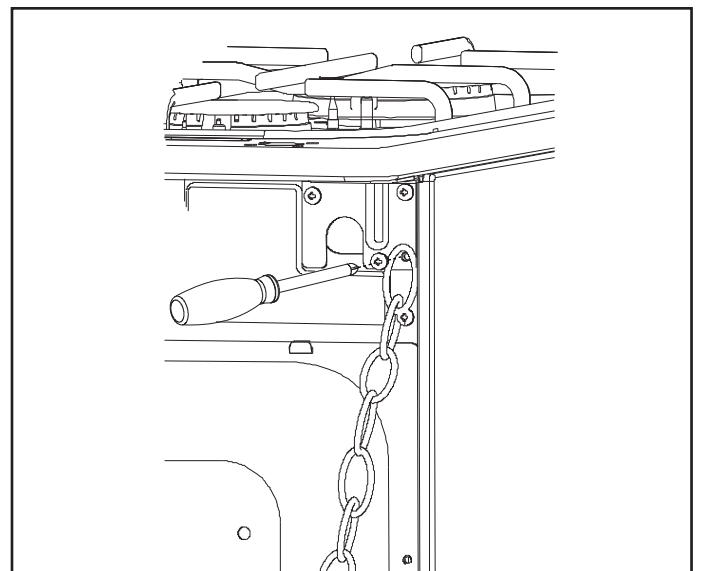

Figure 4
1. Remove the screw on the rear of the appliance as shown in figure 4.